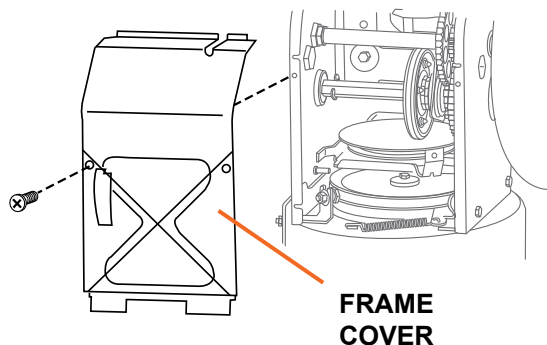

Figure 19
2. Carefully pivot the snow blower up and forward so that it rests on the auger housing. Remove the frame cover from the underside of the snow blower by removing four self-tapping screws which secure it (see Figure 19).